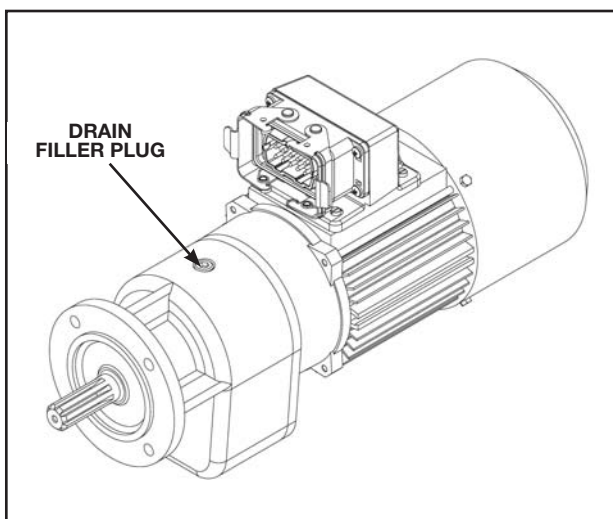

Figure 5: Gearcase Drain/Filler Plug
4. Remove drain/filler plug on top of gearcase as shown in figure 5. Tip motor to drain oil in to proper container. Properly dispose of used oil.